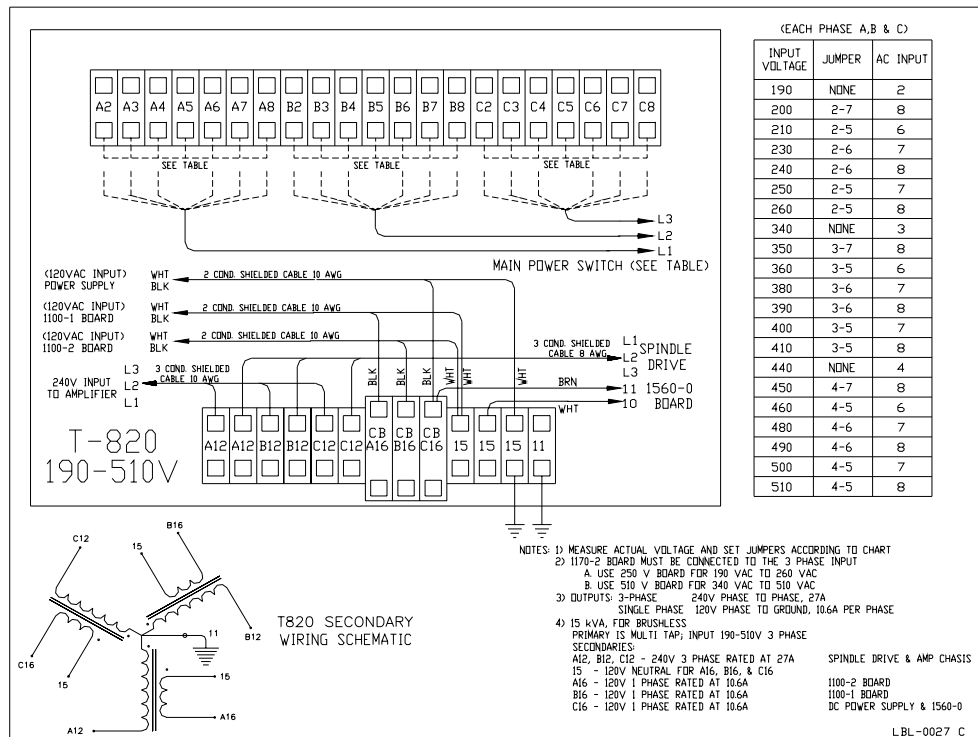
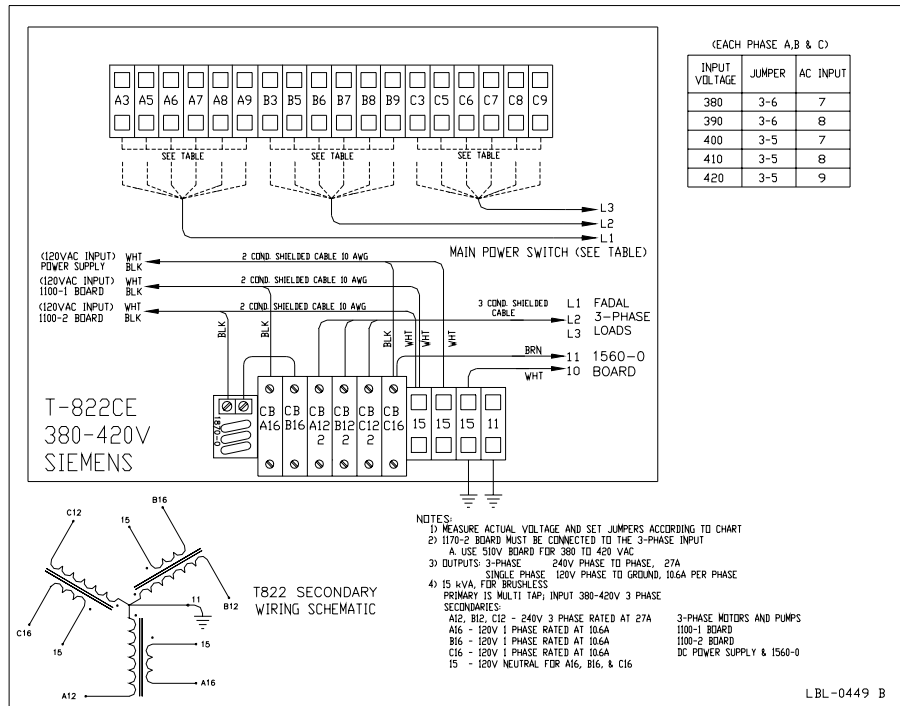

Figure 3-10
Figure 3-11
3) Identify the jumper and AC input locations. Use **figures 3-10 through 3-14** for three phase and single phase transformers.
4) With the jumper and AC input locations, locate the voltage setting of the transformer using the table in either **Figure 3-10 (3 phase)** or **Figure 3-11 (single phase)**.